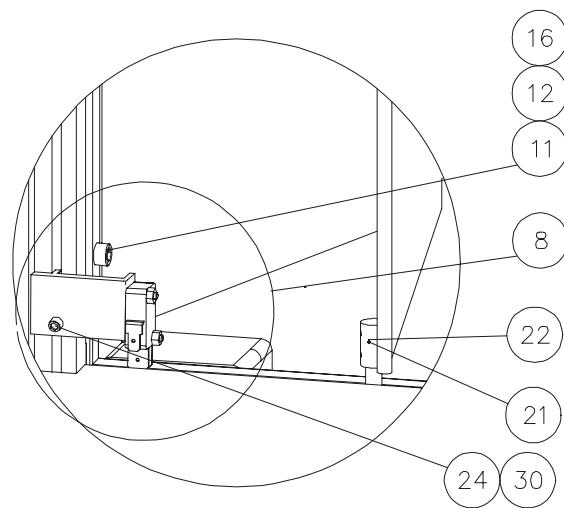

Figure 9: Attaching Microswitch and Guide Pin to Door
13. See Figure 9. With its contact point facing outward (toward the door) fit the microswitch assembly onto the frame. Place the microswitch assembly under the pin on the welding booth frame. Tighten with a screw (30). See Figure 9. Make sure the microswitch clicks when the door closes, indicating that the actuator is depressed.